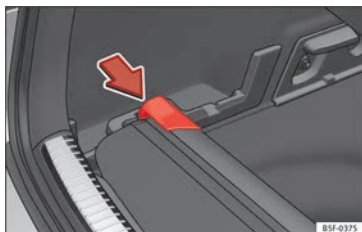

Fig. 170 In the luggage compartment: housing for storing the rear shelf.
- Press the head of the rear shelf in the direction of the arrow until it engages in its housing »» Fig. 170.